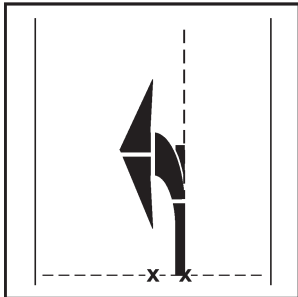

Figure 62
- Place the special "fillet" for the combination arrow with the RIGHT edge along the chalk line and fit it into the curve of the curve arrow (see Figure 62).